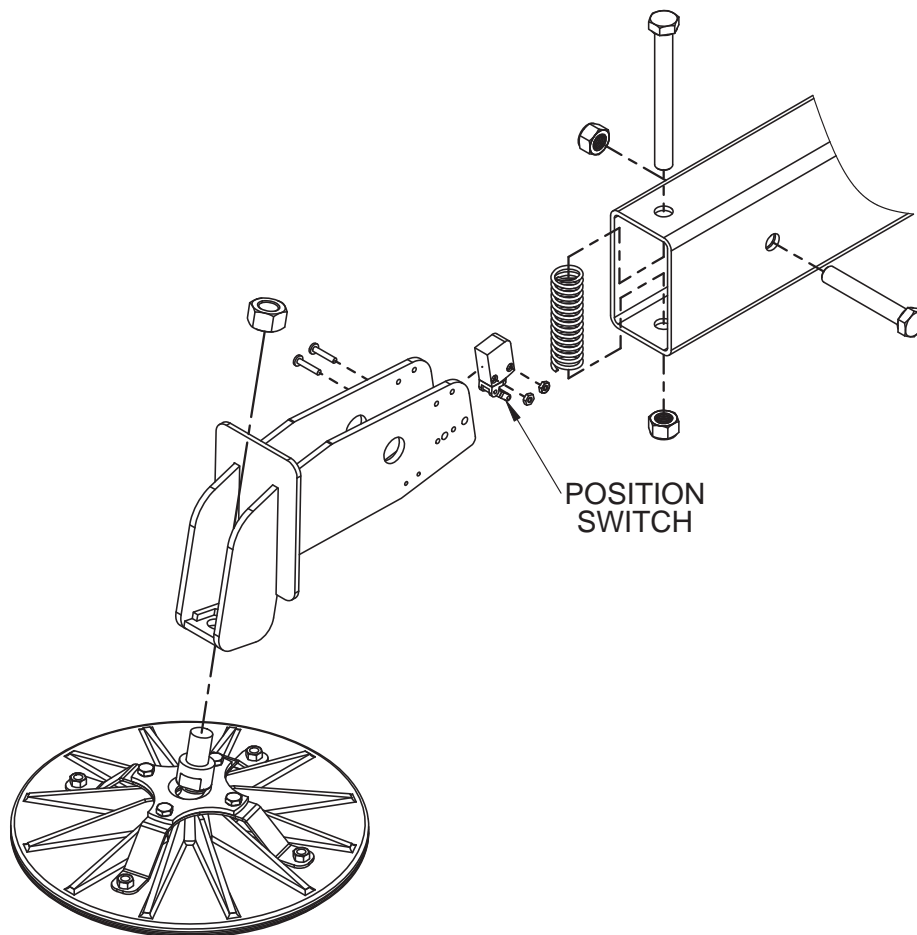

Figure 4-2. Outrigger Position Switch
- If the **LED** is lit before the footpad makes contact with the ground or if the **LED** remains unlit after the weight is transferred to the outrigger, the position switch or wiring is faulty. Refer to Figure 4-2.